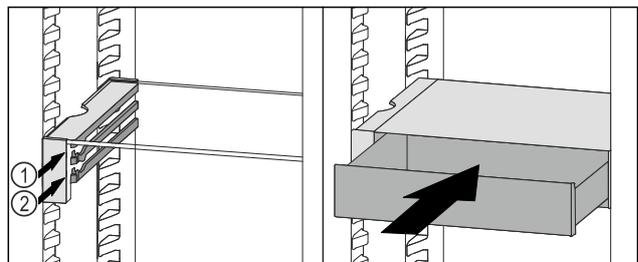

Fig. 96
- ▶ Place the VarioSafe drawer behind the stoppers on desired rib *Fig. 96 (1)* or *Fig. 96 (2)*.